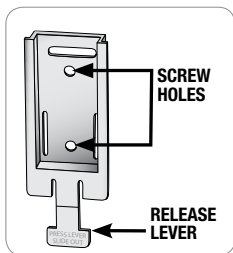

Fig. 17 - 8208 Chair/Wall Bracket (Front View)
2. Use Wall Bracket (Cat. 8208) (Fig. 17).
- Position wall bracket with back (flat side) against wall (Fig. 17).